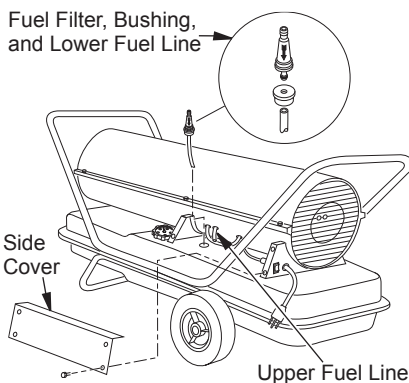

Figure 19 - Fuel Filter Removal, 110/115/155/165/200 Models
4. Carefully pry bushing, fuel filter, and lower fuel line (110/115/155/165/200 Models only) out of fuel tank (see Figure 19).